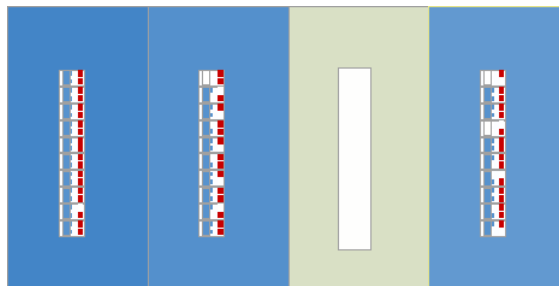

Figure 24: A portion of the expanded view.
6. A Zoom Tool, activated by the icon  in the left hand toolbar, can be used to enlarge parts of the image even more. You can click and drag a box over an area of the chip to quickly zoom into that part of the chip. Figure 24 shows a zoomed-in view of the floorplan that highlights the implemented circuit. By positioning the cursor on any logic element, the designer can see what part of the circuit is implemented in this resource. The chip planner tool has several icons that can be used to view aspects such as fan-in and fan-out of nodes, connecting paths between nodes, and so on. For more information on using this tool, refer to Help by selecting Help > Search > Contents > Achieving Timing Closure > Working With Assignments in the Chip Planner from the main Quartus® II display.